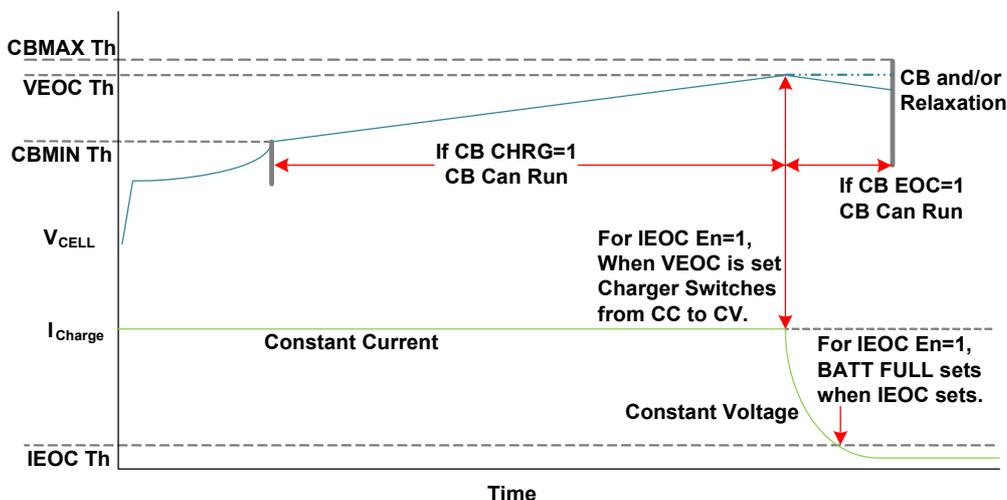

Figure 108. A Typical Charge Characteristic Curve
The ISL94216 has features that support both Constant Current (CC) and Constant Voltage (CV) charging. A typical charging profile for a battery cell is depicted in Figure 108. Cell balancing can occur only when the cell voltage is between the $CBMIN$ and $CBMAX$ limits, which are independent of $CB\ EOC$ and $CB\ CHRГ$ bit settings.